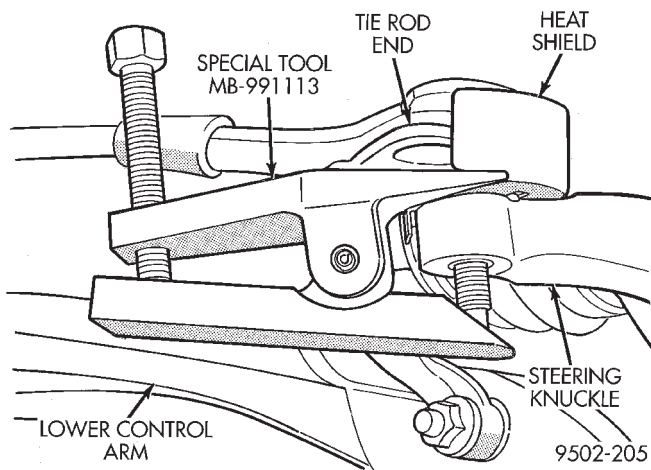

Fig. 33 Tie Rod End Removal From Steering Knuckle
(3) Remove tie rod end stud, from steering knuckle, using Remover, Special Tool MB-991113 (Fig. 33).